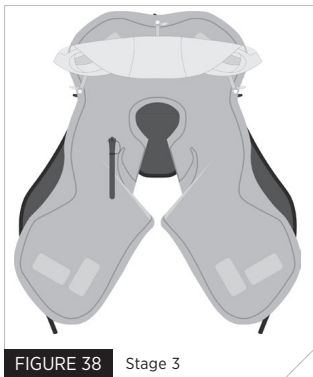

FIGURE 38 Stage 3
3. Bring the bottom of the hood and lower visor up into centre (Fig 38).